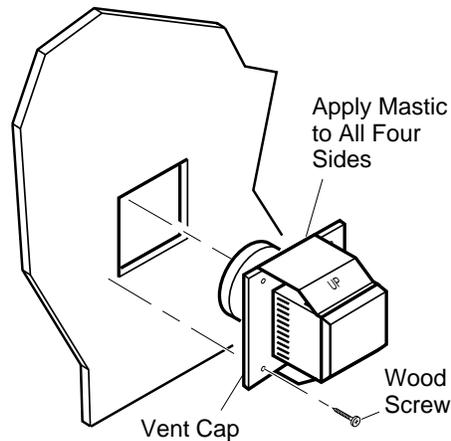

Figure 28 - Installing Horizontal Vent Cap
- Apply a bead of non-hardening mastic around the outside edge of the vent cap. Position the vent cap in the center of the 7 1/2" or 10" hole on the exterior wall with the word "up" on the vent cap facing up. Insure proper clearance of 1" to combustibles is maintained. Attach the vent cap with four wood screws supplied (see Figure 28). **Note:** Replace the wood screws with appropriate fasteners for stucco, brick, concrete, or other types of siding.